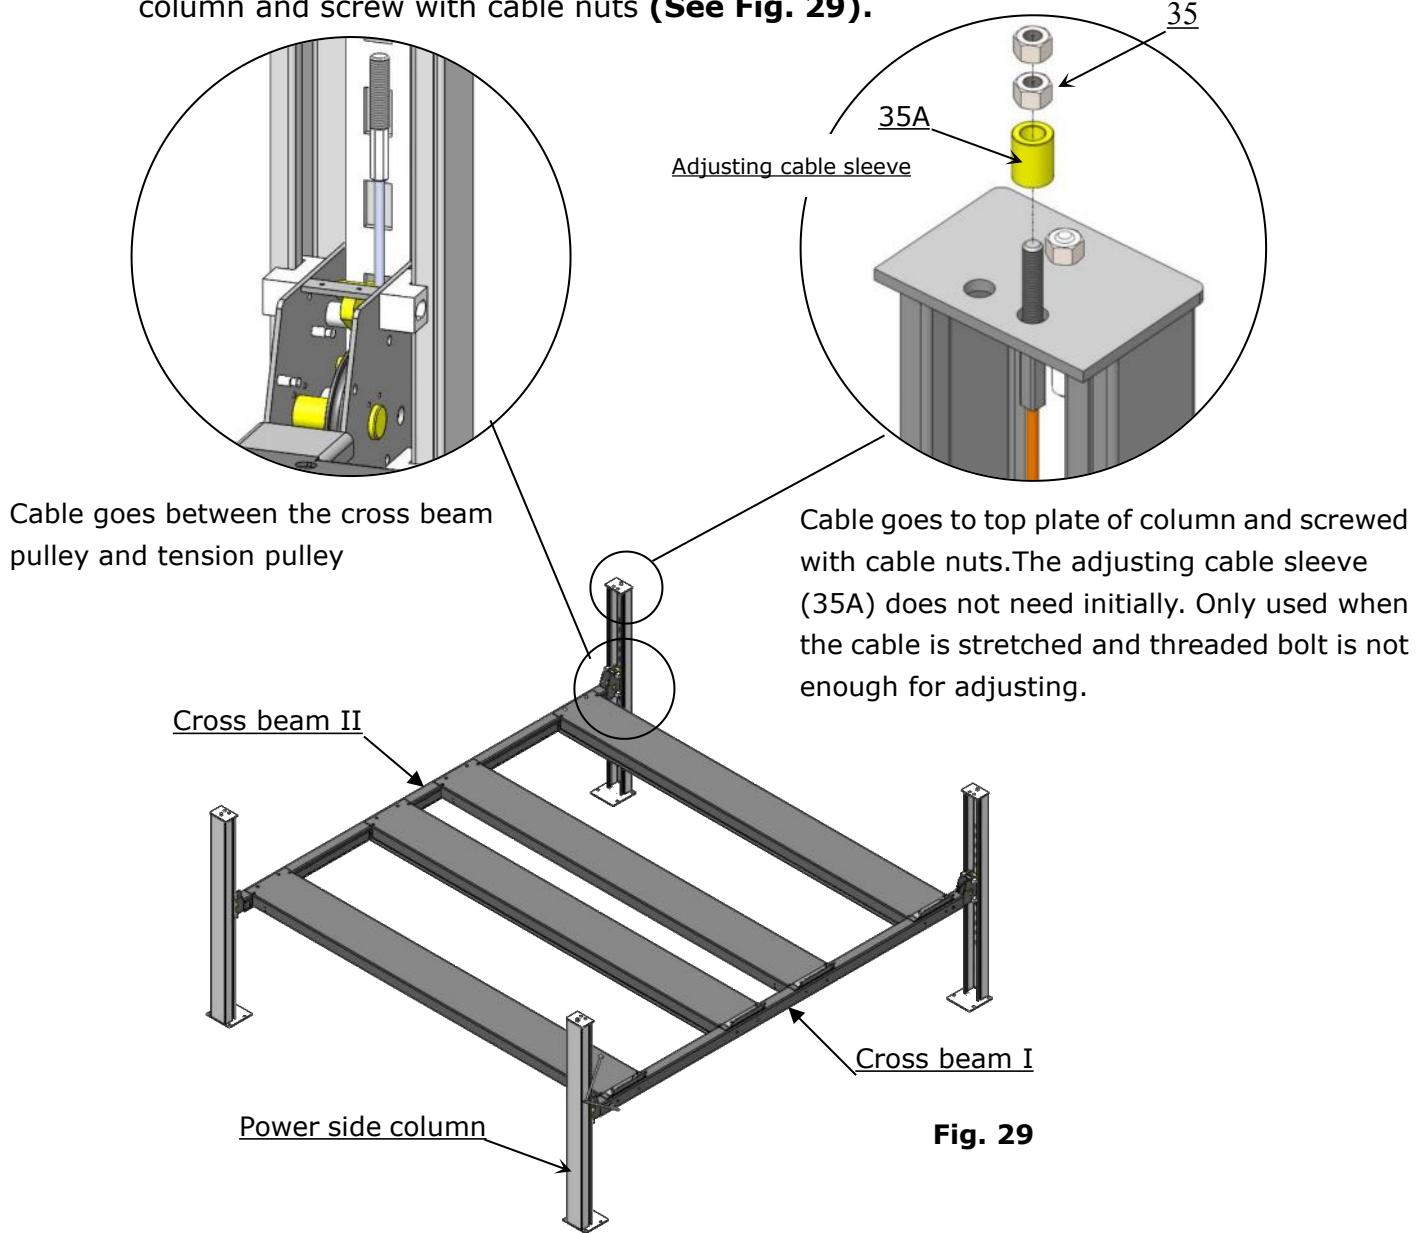

Fig. 29
2. Pass the cables through the cross beam pulley and tension pulley to top plate of column and screw with cable nuts (**See Fig. 29**).